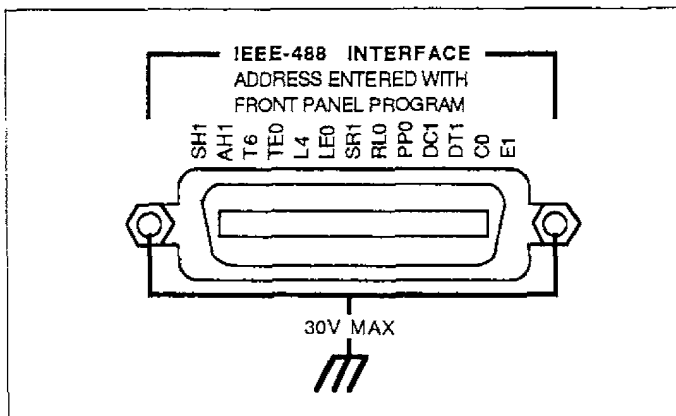

Figure 4-4. Model 263 Rear Panel IEEE-488 Connector
1. Line up the connector on the cable with the connector on the rear panel of the instrument. Figure 4-4 shows the IEEE-488 connector.